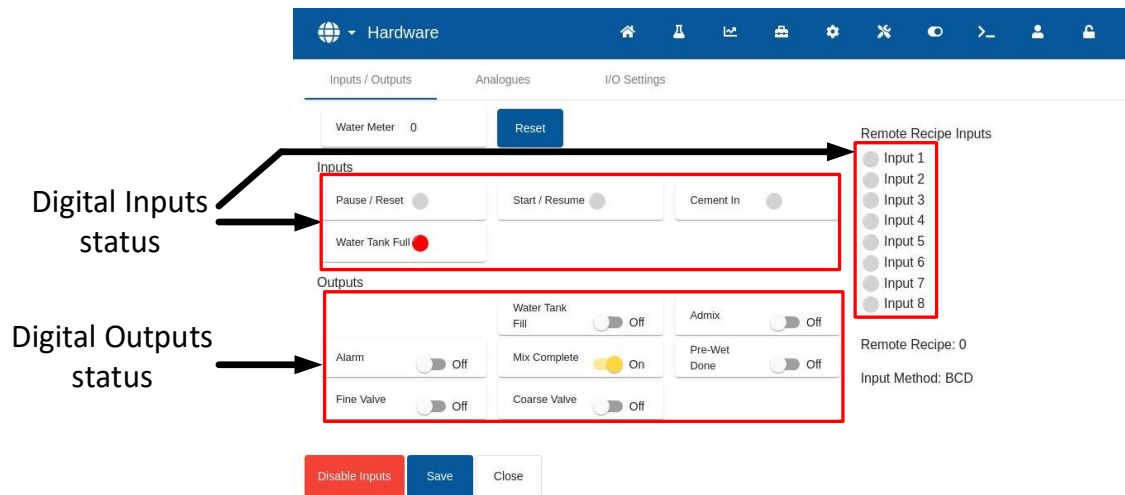

Figure 27: I/O test page
The digital inputs and outputs can be tested using the 'Inputs / Outputs' page of the 'Hardware' screen (see Figure 27).
1. Navigate to the 'Inputs / Outputs' page of the 'Hardware' screen (see Figure 27). Press the 'Reset' button if the 'Water Meter' value is not '0'.